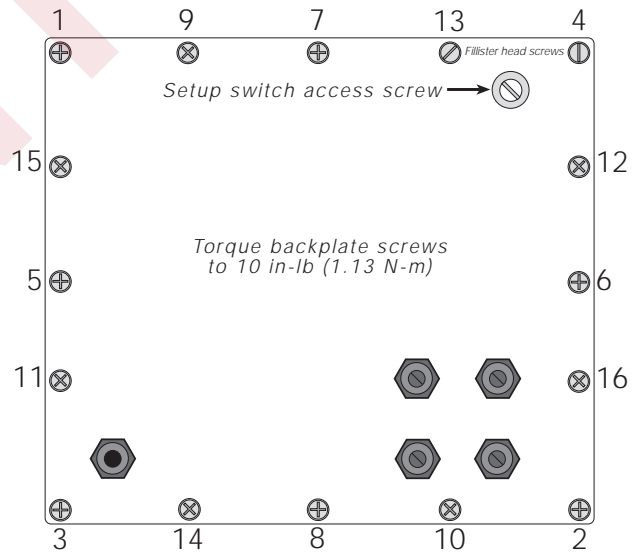

Figure 2. Torque Pattern for Backplate Screws
10. Position backplate over the enclosure and reinstall the backplate screws. Use the torque pattern shown in Figure 2 to prevent distorting the backplate gasket. Torque backplate screws to 10 in-lb (1.13 N-m).